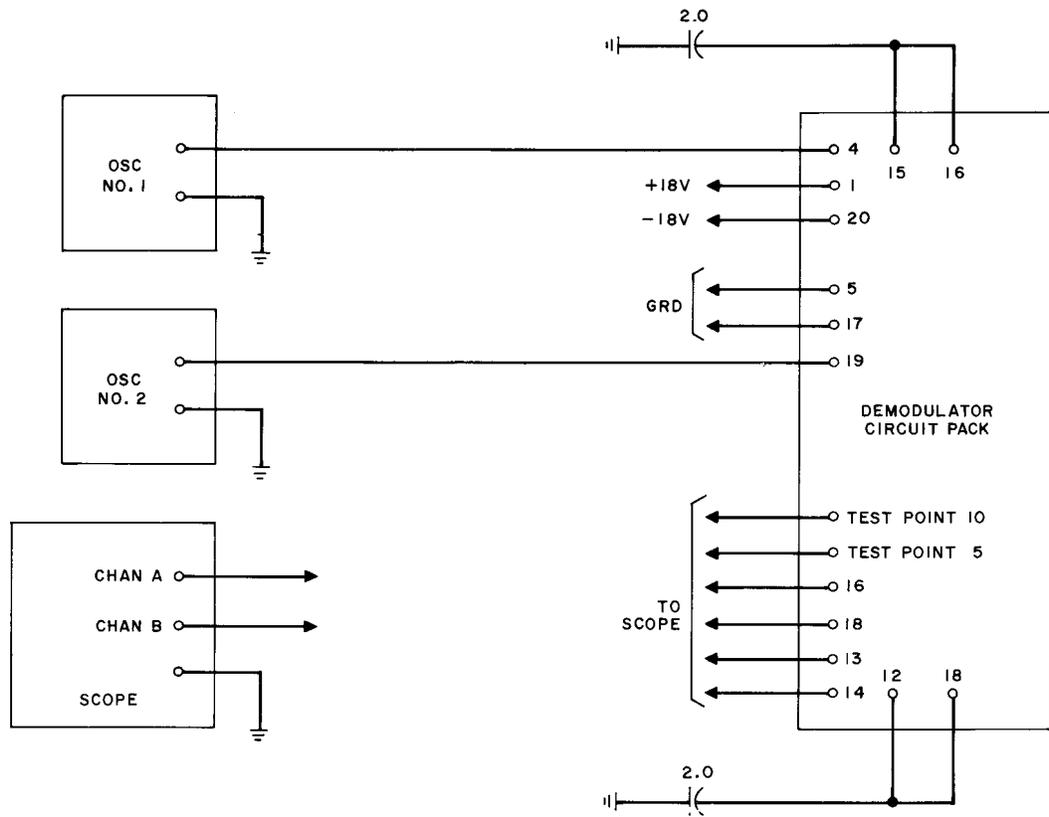
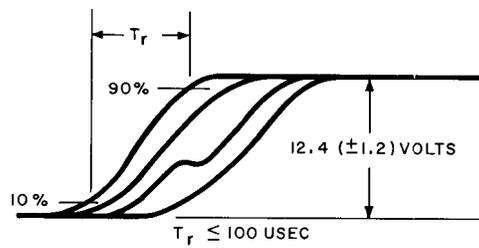

Fig. 68A — Demodulator Circuit Pack Test Circuit
Fig. 69A — Demodulator Circuit Pack Test
- (1) Connect the circuit pack to the suggested test circuit shown in Fig. 68A.
- (2) With the amplitude control of oscillator No. 2 set to 0, temporarily connect ground to input terminal 19.
- (3) Set the controls of oscillator No. 1 to produce a $0.2 (\pm 0.005)$ volt rms signal at 1800 Hz between input terminal 4 and ground. The waveform between test point 5 and ground shall be a sine wave of $0.68 (\pm 0.15)$ Vac peak-to-peak amplitude.
- (4) Remove the ground connection from input terminal 19. With the amplitude control of oscillator No. 1 set to 0, temporarily connect ground to terminal 4.
- (5) Set the controls of oscillator No. 2 to produce a $0.5 (\pm 0.005)$ volt rms signal at 1800 Hz between input terminal 19 and ground. The waveform between test point 10 and ground shall be a sine wave of $0.68 (\pm 0.15)$ Vac peak-to-peak amplitude. Remove the ground connection from terminal 4.
- (6) Set the controls of oscillator No. 1 to produce a $0.32 (\pm 0.005)$ Vac rms signal at 1800 Hz between input terminal 4 and ground.
- (7) Set the controls of oscillator No. 2 to produce a $0.80 (\pm 0.005)$ Vac rms signal at 1800 Hz between input terminal 19 and ground.
- (8) Connect the scope, using the differential mode of operation, to terminals 16 and 18. Satisfactory synchronization may be obtained by connecting EXT SYNC to VERTICAL SIGNAL OUT on the scope. The output waveform shall be a sine wave. Track the frequency of oscillator No. 2 in the vicinity of 1800 Hz until the frequency of the output sine wave is approximately 2 Hz. The output sine wave shall be $12.5 (\pm 2.5)$ Vac peak-to-peak.
- (9) With the controls of the oscillators set as in (8), connect the scope, using the differential mode, to terminals 13 and 14. The output waveform shall be a square wave of approximately 2 Hz with $12.4 (\pm 1.2)$ Vac peak-to-peak amplitude.
- (10) Increase the frequency of oscillator No. 2 to approximately 2700 Hz. With the EXT SYNC TRIGGER selector set to the positive (+) position, expand the TIME/CM selector until an overlay of positive transitions is displayed on the scope as shown in Fig. 69A. The rise time of the first transition shall be as specified in Fig. 69A.
- (11) Momentarily turn off oscillator No. 1. The differential voltage between terminals 13 and 14 shall be less than 150 mV peak-to-peak. Turn on oscillator No. 1. Momentarily turn off oscillator No. 2. The differential voltage between terminals 13 and 14 shall be less than 150 mV peak-to-peak.